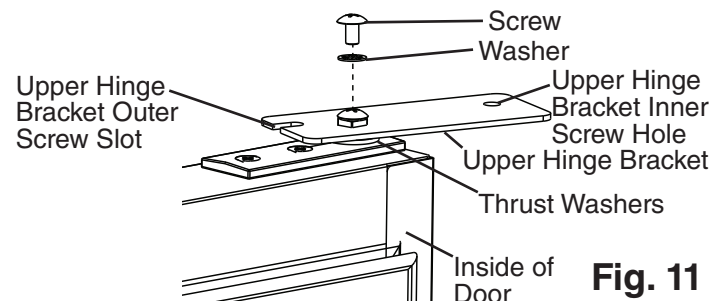

Fig. 11
- 11) Make sure the thrust washers are in place on the spring cartridge, then flip the upper hinge bracket over from its original position and install onto the spring cartridge in the door open position. See Fig. 11. The upper hinge bracket should be positioned as shown.